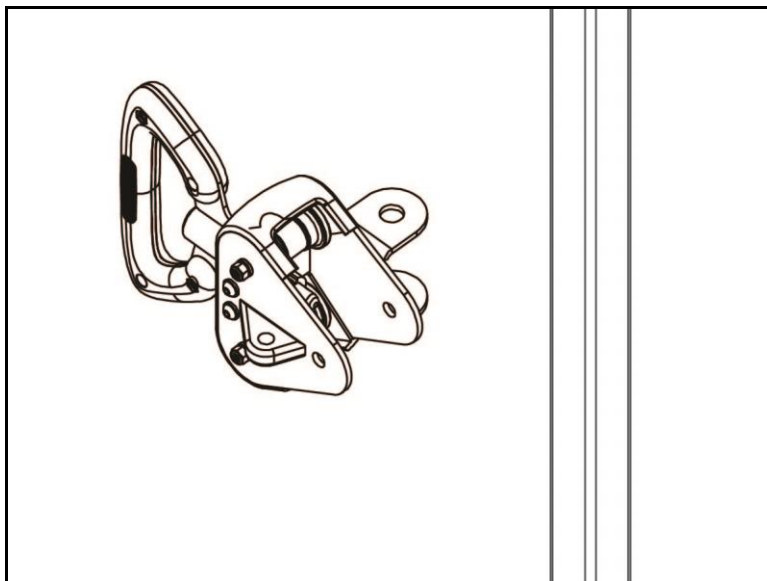

Fig. 6
- With all the necessary hardware removed – dislodge the old carriage assembly (Fig. 6) from the adjustment bar post.